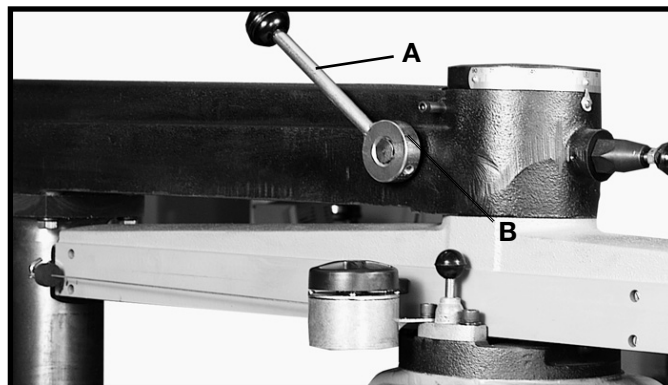

Fig. 39
When the track-arm clamp handle (A) Fig. 39 has to be moved beyond the position shown to clamp the track-arm, an adjustment can be made as follows:
1. Move clamp handle (A) Fig. 39 to the rear as far as it will go.
2. Loosen set screw (B) Fig. 39, remove clamp handle, (A) and reposition handle (A) on stud. Move handle to the rear until track-arm is completely locked. Then tighten set screw (B).